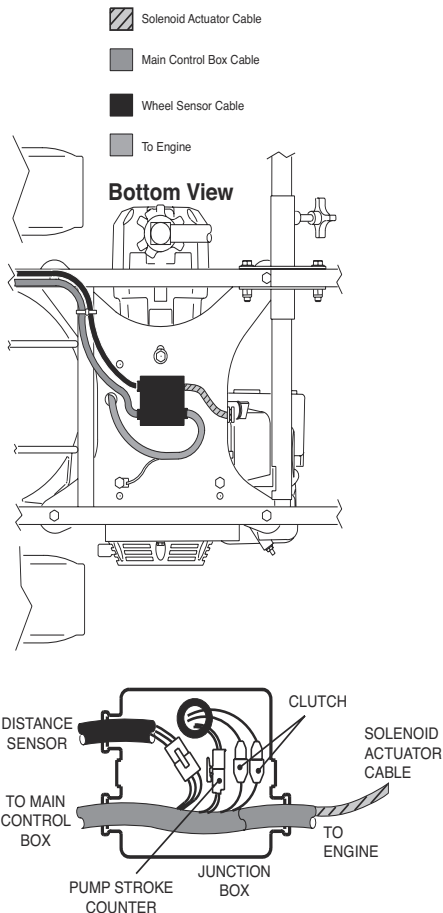
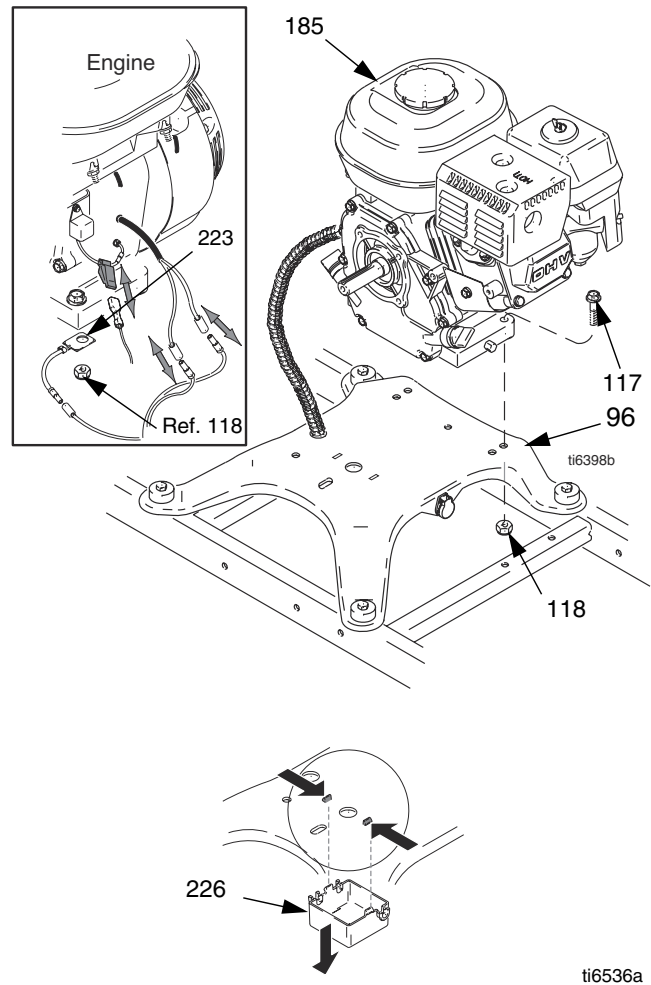

FIG. 11
FIG. 12
2. FIG. 12. Remove junction box (226).
3. FIG. 11. Disconnect pump stroke sensor and clutch cables.
12. FIG. 11. Connect pump stroke sensor and clutch cables.
13. FIG. 12. Install junction box (226).
3. FIG. 11. Disconnect all necessary wiring.
4. FIG. 12. Remove screw (177). Remove two screws (117), locknuts (118), and ground conductor (223, 260) from base of engine (185).
1. FIG. 12. Lift engine carefully and place on engine mount plate (96).
2. Install two screws (117) and ground conductor (223, 260) in base of engine and secure with locknuts (118). Torque to 20 to 30 ft-lb.
3. FIG. 11. Connect all necessary wiring.